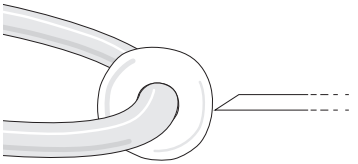

Fig. 23— Pipette tip close to glass bead
3. With heat off, move the tip close to the point that the filament expanded to (Fig. 23).